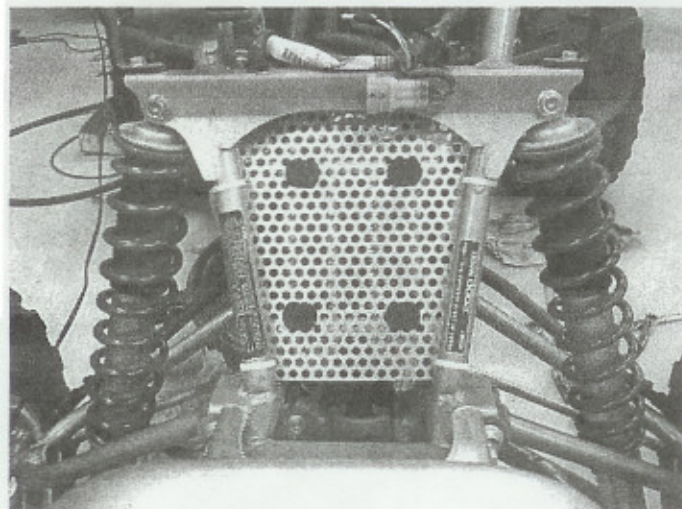

FIG. 8
- Locate the aluminum grill and 4 10" zip ties supplied with the kit. Install the grill behind the two down tubes between the front shocks with the four supplied zip ties. (Fig. 8).